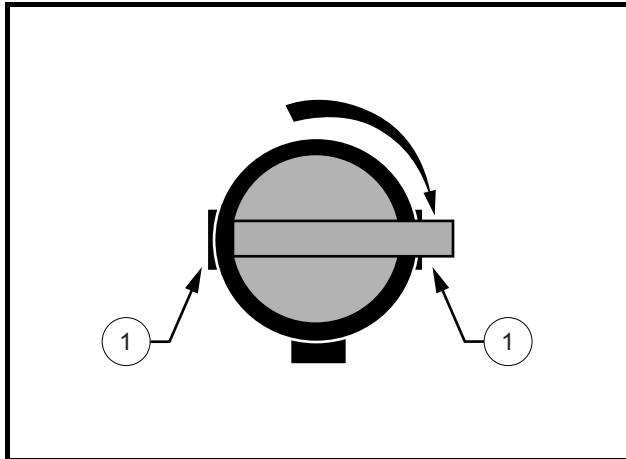

Figure 12 Fuel Shut-off Valve – Closed (OFF) Position
2. Turn the key switch to the OFF position and place the Forward/Reverse handle in the NEUTRAL position. Remove the key and turn the fuel shut-off valve to the closed (OFF) position when the vehicle is not in use (**Figure 12, Page 23**). See also **Figure 24 on page 34**.
- Turn the fuel shut-off valve to the closed (OFF) position (Figure 12).
- Turn the fuel shut-off valve to the closed (OFF) position (Figure 12, Page 23).